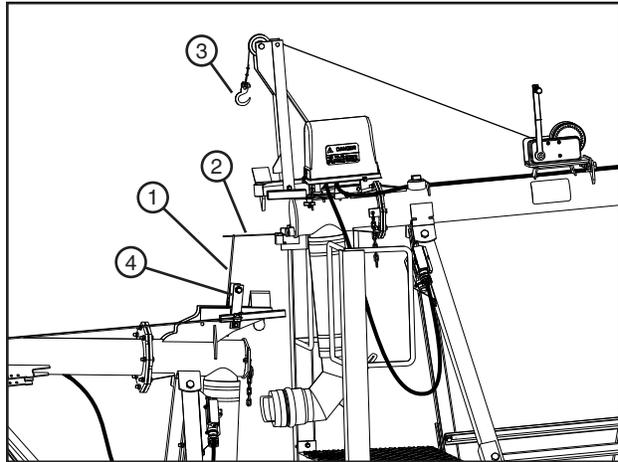

Figure 30-1 1. Stop Rod 2. Microswitch 3. Winch Cable 4. Lift Bar
3. Shut the machine down properly after the stop rod has made contact with the microswitch assembly. See Figure 30-1.